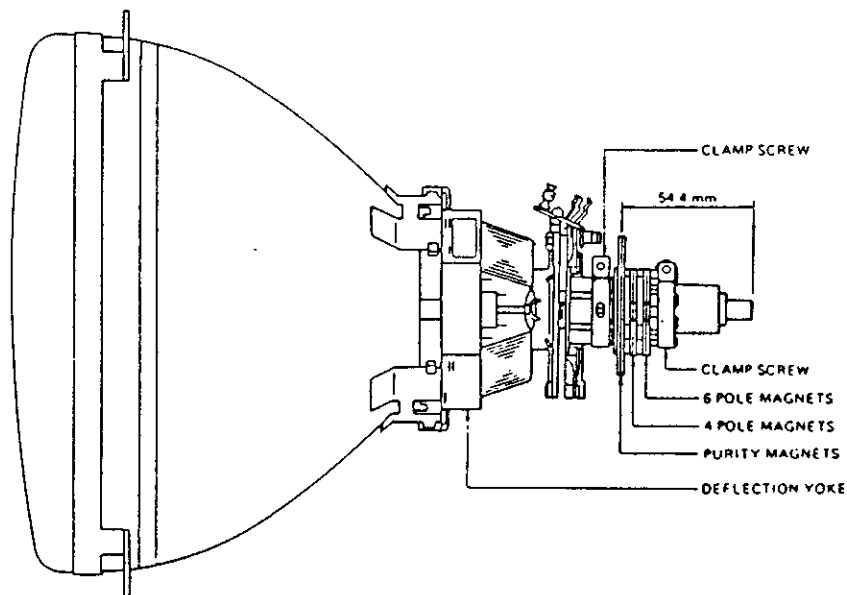

Fig. 5 Picture Tube Neck Component Location
1. Check for correct location of all neck components. (Refer to Fig. 5)
(Refer to Fig. 5 & 6)
IMPORTANT: Before proceeding, check location of the convergence magnet assembly on the neck of the CRT as shown in Figure 5. The rear edge of this assembly must be positioned 3/4 inch from the tip of the CRT base. If not properly positioned, convergence adjustment may be difficult, if not impossible.